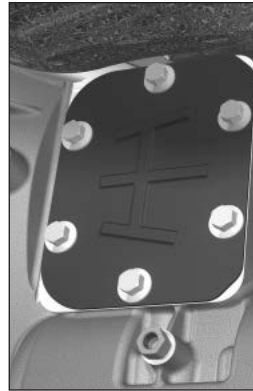
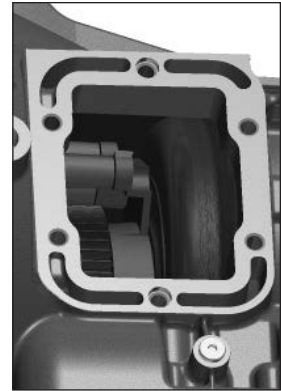

Figure 25
Figure 25a
- Remove the PTO aperture cover plate and gasket (Fig. 25 and Fig. 25a). **DO NOT** discard the gasket. It will be used when installing the adapter on the transmission.